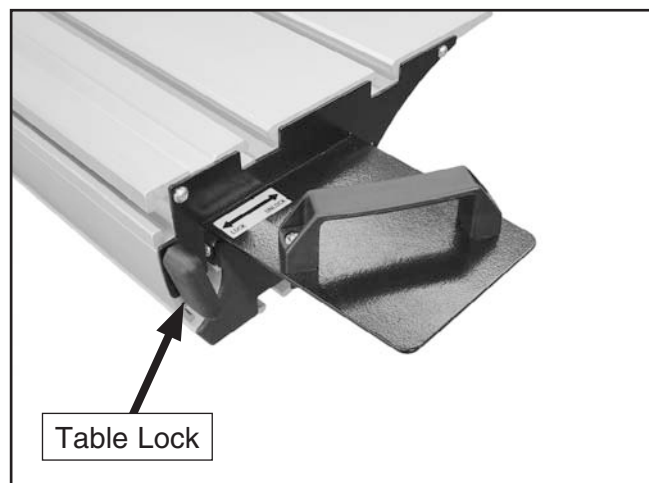

Figure 76. Sliding table lock.
2. Lock the sliding table into a stationary position (see **Figure 76**).